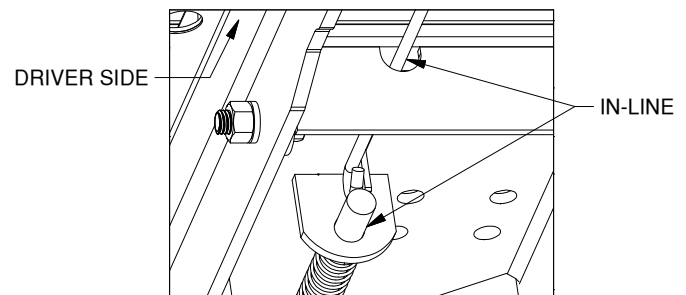

Figure E1: Handle Installation
1. **Insert the handle.** Install the latch pin release handle by inserting it through the slot in the end of the center section on the driver side of the truck. Align the handle eyelet with the square hole in the latch pin so the handle is in line with the latch, as shown in Figure E1.